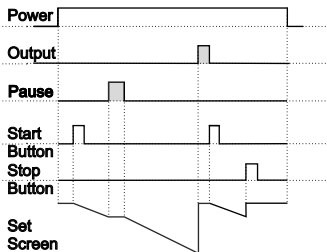

Figure 1.2
1.1.2 If downcount $\boxed{DEC}$ = 1 and $\boxed{OUT}$ is $\boxed{OFF}$ the control diagram is shown in Figure 1.2